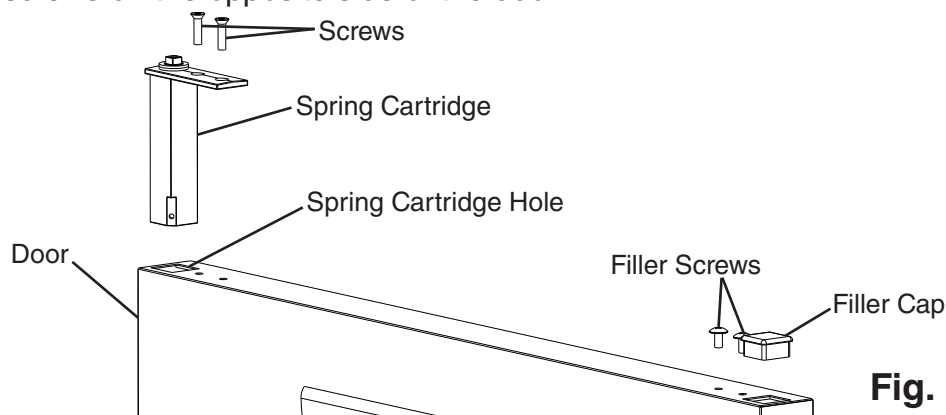

**Fig. 13**
- 9) Clear foam from the spring cartridge hole to allow for spring cartridge installation. See Fig. 13. Install the spring cartridge in its new location. Reinstall the filler cap and filler screws on the opposite side of the door.